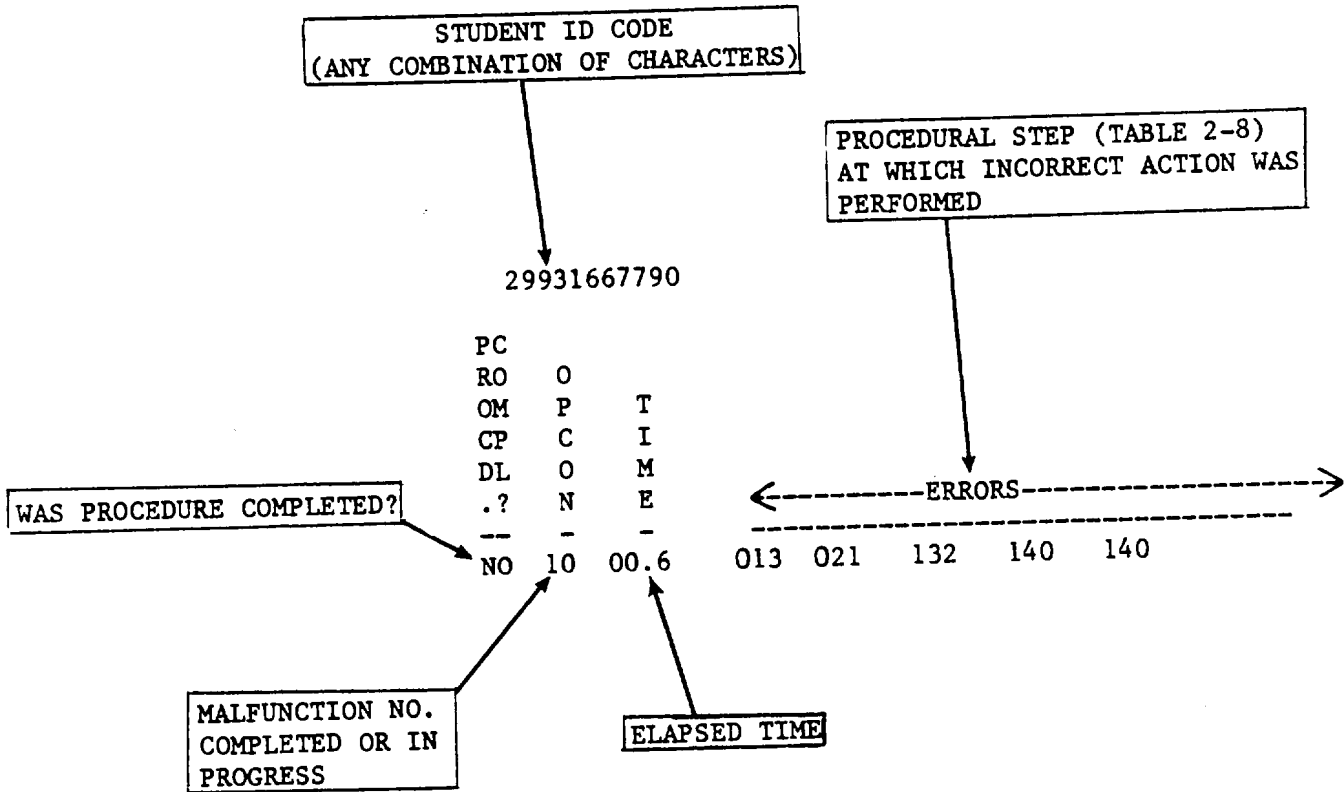

Figure 2-10. Student Record
b. Practice Mode. The practice mode may be entered after desired malfunctions are inserted as described in the demonstration mode (para a above). In the practice mode, the student may troubleshoot any fault group selected in demo-freeze, but faults and time standards may not be changed. To select another fault group, the trainer must be returned to demo-freeze. At any time, the student may reset the current fault or advance to the next fault within the fault group by pressing RESET (1V, fig. FO-1) or ADVANCE (2V). The student's performance is monitored during troubleshooting and the student is guided by CRT and viewer displays to help him learn as he proceeds in a self-paced exercise. Table 2-7 gives step-by-step procedures. A student performance printout (fig. 2-10) may be obtained at any point. The printout supplies the student's assigned ID code, current malfunction, elapsed time since the student began troubleshooting the malfunction, whether or not the entire troubleshooting procedure was completed, and the procedural step number at which an error was committed. Table 2-8 lists each procedural step number with the control which is to be manipulated. The step number corresponding to the correct control will print out under ERRORS (fig. 2-10), if the student has performed an action other than the required action at any point in the procedures.
(1) In this mode, no feedback to assist the student is provided by the CRT or viewer except displays of components that are part of the M1 subsystem simulation. The student must progress on the basis of subsystem performance alone.
(2) The student may advance to the next fault at any time but is not able to reset the current fault. For step-by-step procedures, see table 2-7.